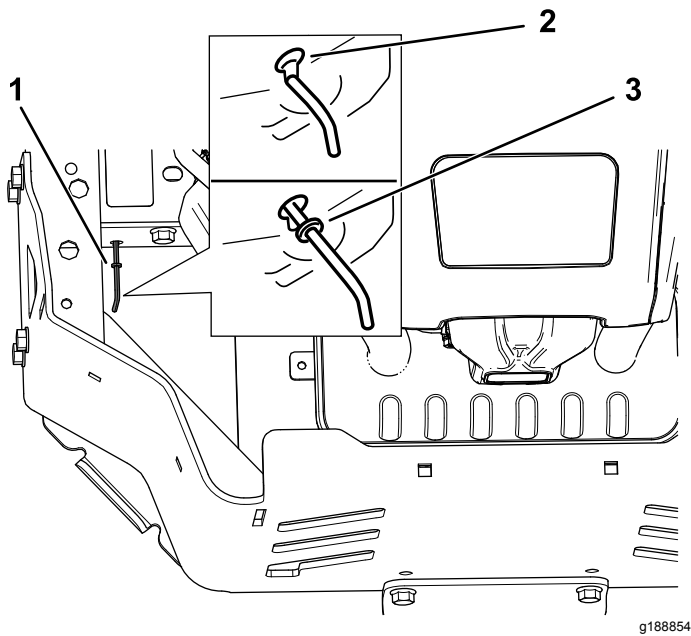

Figure 39
4. Move the bypass levers forward through the key hole and down to lock them in place (Figure 39).
Move the bypass levers rearward through the keyhole and down to lock them in place as shown in Figure 39.